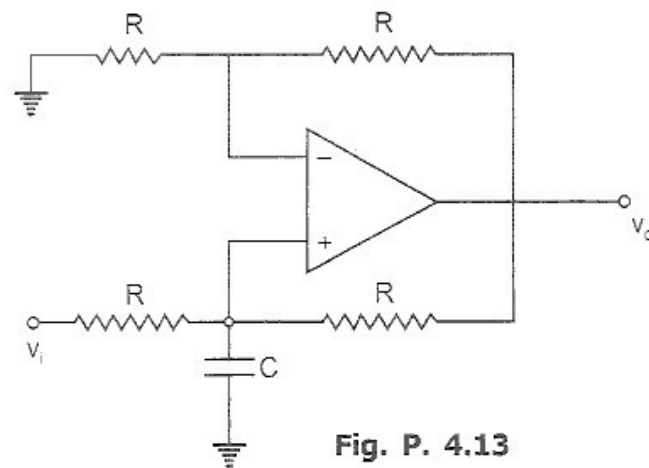

Fig. P. 4.13
- 4.13. Prove that the circuit shown in Fig. P. 4.13 is